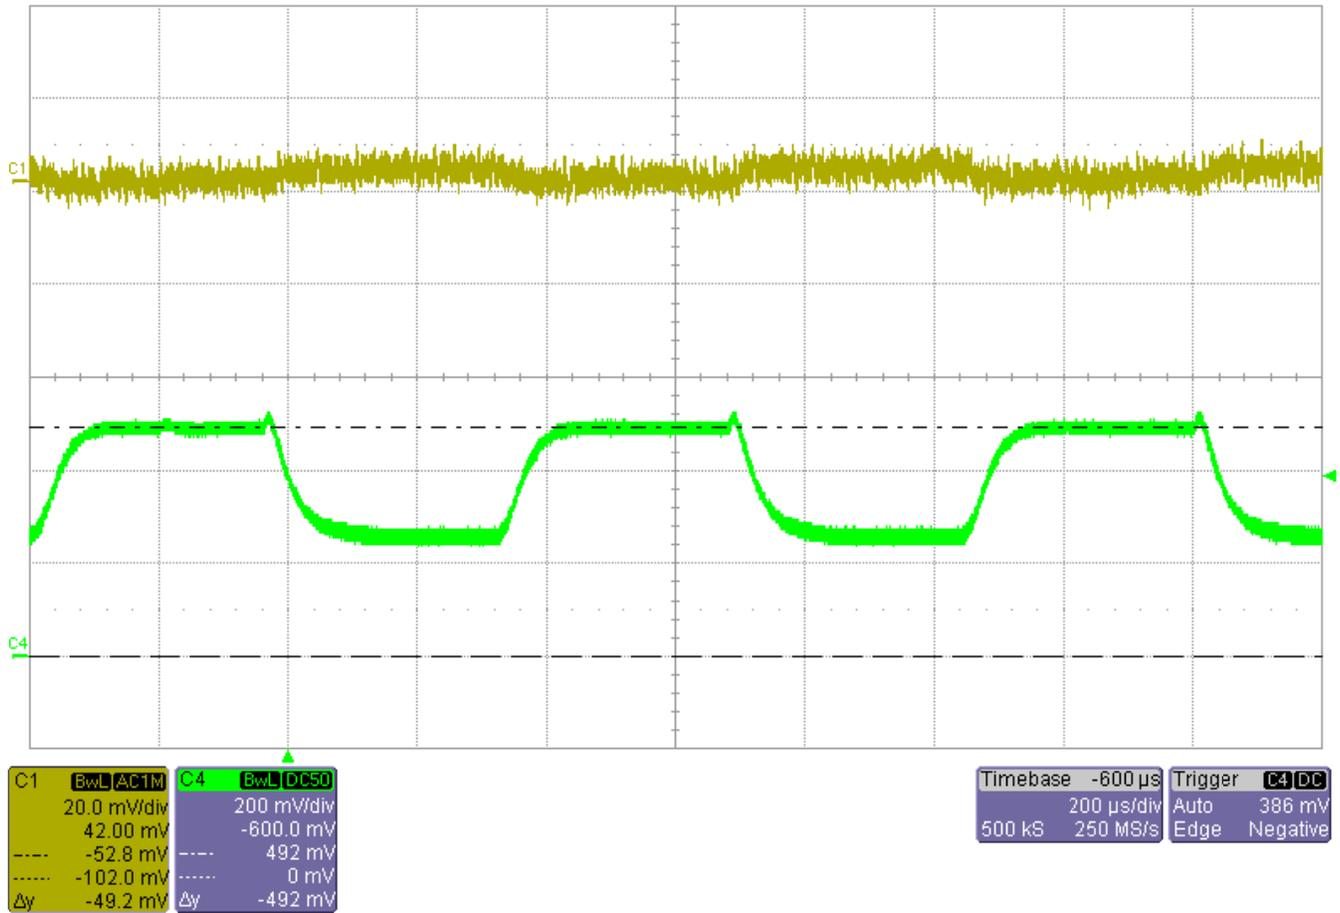

Figure 18: Load Step Response of 1V8_BUCK
- Figure 18: Load Step Response of 1V8_BUCK